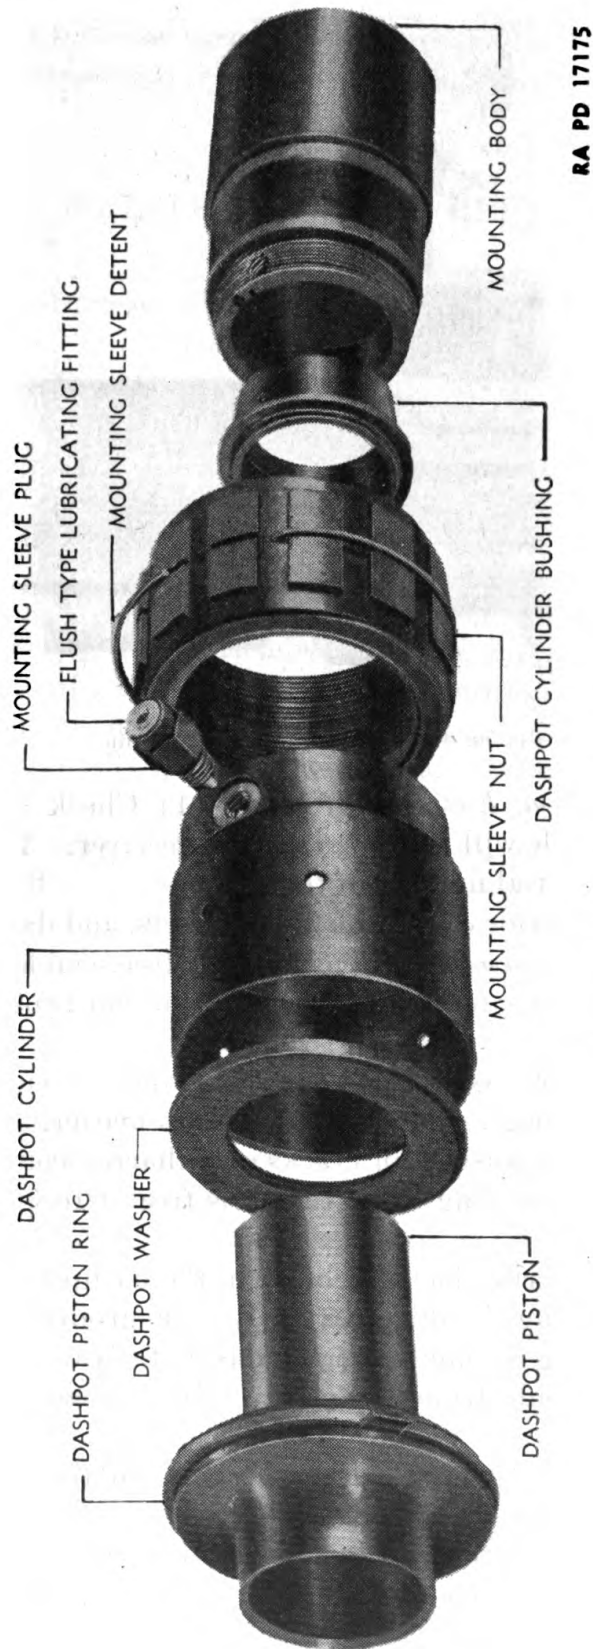

FIGURE 3.—Mounting sleeve group.
(5) Fit muzzle brake wrench over the splines on rear muzzle brake ferrule and unscrew rear ferrule from muzzle brake body assembly.
(6) Remove washer and straighten it.
*b. Mounting sleeve group* (fig. 3).—(1) Remove recoil spring and two sleeves, as described in TM 9-227.
(2) Remove mounting sleeve group.
(3) Unscrew lubricant fitting.
(4) Unscrew mounting body and remove mounting sleeve nut.
(5) Remove dashpot cylinder bushing.
(6) Remove dashpot piston and washer from dashpot cylinder.
*c. Breechblock pin*.—(1) Remove breechblock pin taper pin.